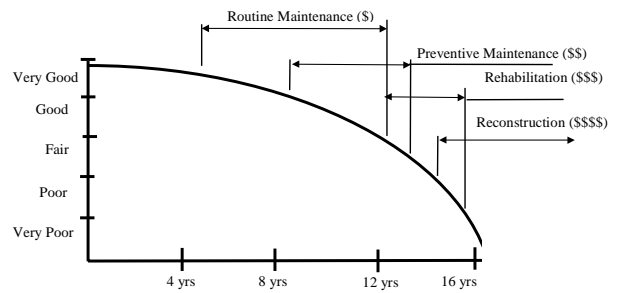

Figure 1 - Maintenance and Rehabilitation Strategies
3. **Timing is everything** – since there is a relatively short amount of time when the more cost-effective treatment can be properly utilized, proper timing is crucial to a successful pavement preservation program. Figure 1 shows the different repair categories superimposed on a generic pavement deterioration curve (pavement condition vs. age). Simply put, if preventive or routine maintenance is delayed for several years, small cracks can become much larger cracks and spread throughout the pavement. This increased level of deterioration will require a more expensive repair.